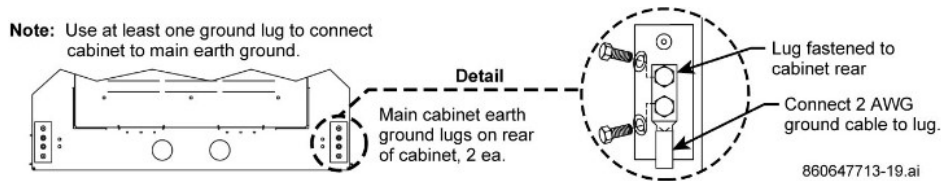

Figure 27. Main Earth Grounding
Connect cabinet to earth ground with at least one ground lug at bottom rear of cabinet, Figure 27.
- Ground external ancillary equipment to the 8-position ground bar located in the cabinet. The ground bar uses 1/4"-20 studs spread at .625" (15.875 mm) C-C, Figure 27.